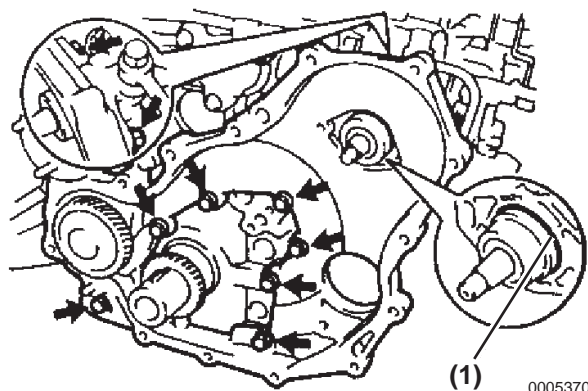

Figure 8-18
5. Install a new O-ring (**Figure 8-18, (1)**) onto the fuel injection pump.